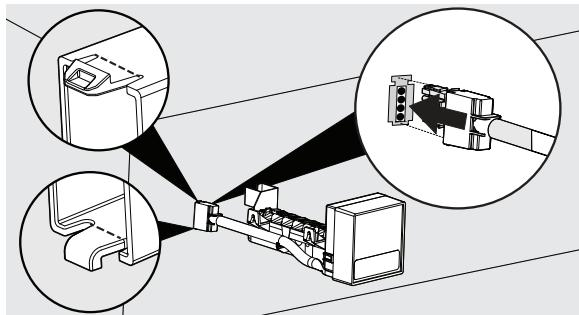

**Figure 8**
12. Insert 2 long Ice Maker mounting screws into the freezer wall where the plugs were removed in Step 4. Turn each screw clockwise 5 turns (Figure 8).